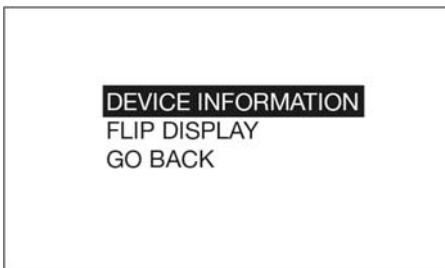

FIG. 70
5. The UTILITY MENU screen shown in FIG. 70 displays.